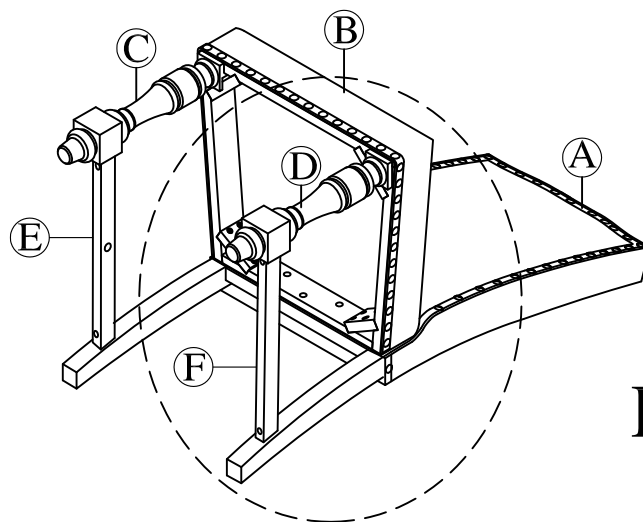

Fig.4
Repeat step 3 to attach the remaining Side Stretcher (F) and Front Leg (D) to Cushion Seat (B) as shown on Fig.4 .